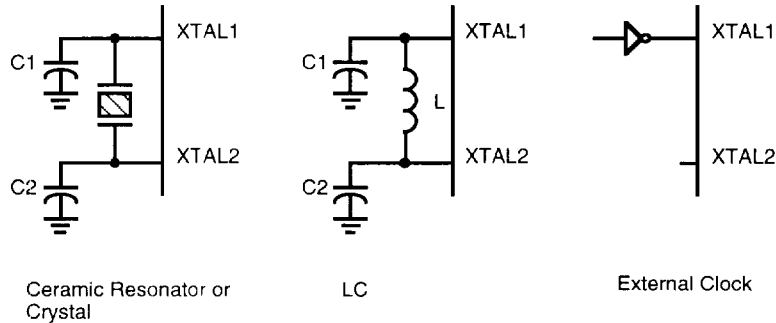

Figure 16. Oscillator Configuration
Clock. The Z89121/921 on-chip oscillator has a high-gain, parallel-resonant amplifier for connection to a crystal, LC, ceramic resonator, or any suitable external clock source (XTAL1 = Input, XTAL2 = Output). The crystal should be AT cut, 20.48 MHz maximum, with a series resistance (RS) less than or equal to 100 Ohms. The system clock (SCLK) is one half the crystal frequency (Figure 16).